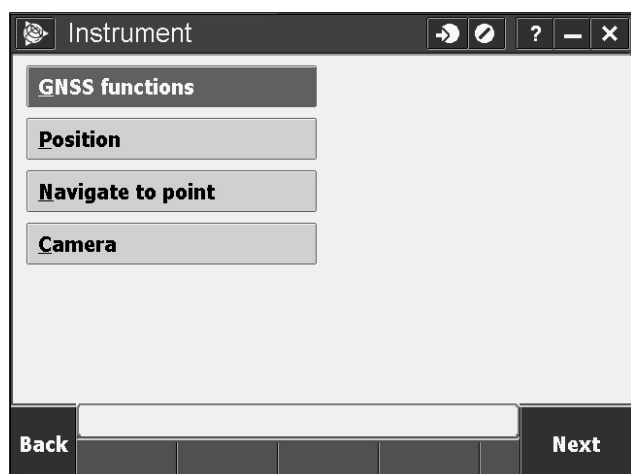
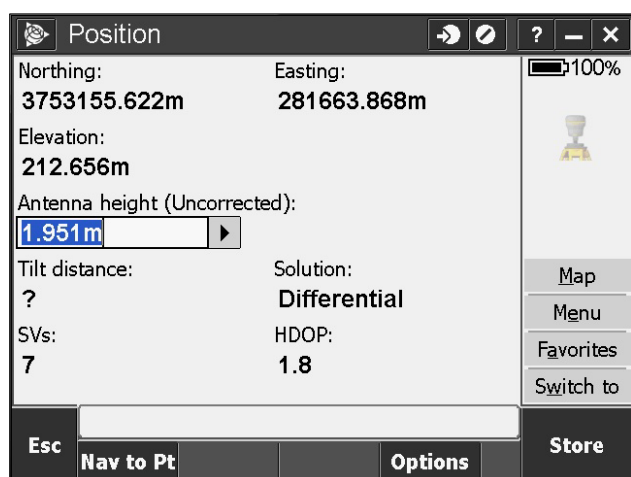

Figure 6. Instrument menu.
Figure 7. Position menu
- c. From the General Survey Menu (Figure 2) => Instrument (Figure 6) => Position (Figure 7) => Enter handheld height => Click Store in the lower right => Name the point (ex. BM1) => Accept